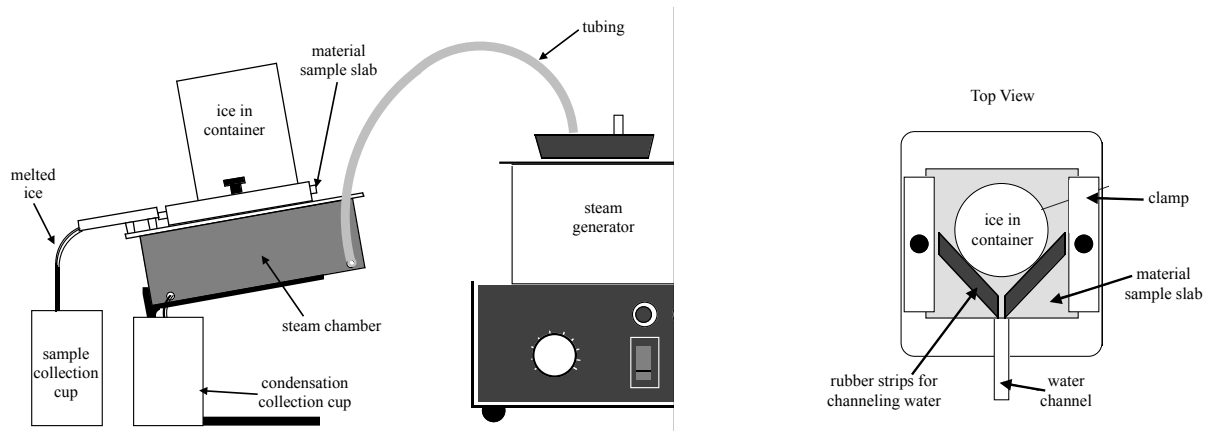

Figure 1: Equipment set up, side view and top view of ice and sample on steam chamber.
1. Set up the apparatus as shown in Figure 1. The sample material slab is the gray square shown in the top view. It is seated on top of the steam chamber and held in place with the clamps. The ice is going to be placed on top of the sample. Fill the steam generator about $2/3$ full and set it to 7, but do not attach the tubing yet. If hot water begins to spray from the hole in the stopper, it is overfull; remove some water.